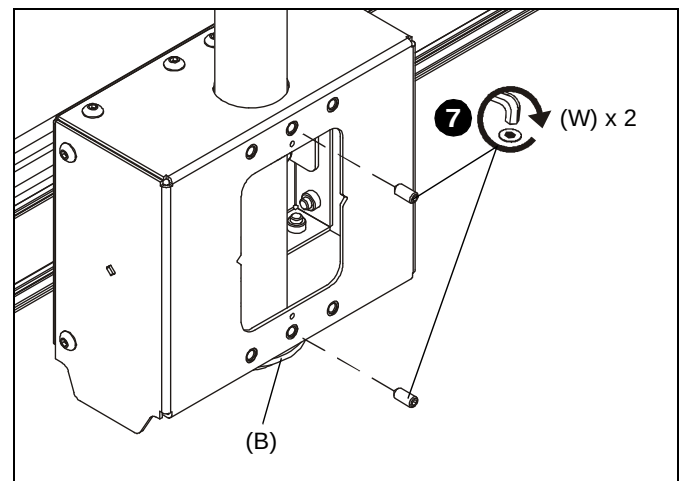

Figure 3
6. Loosen two installed set screws (W), and slide ceiling mount down extension column until it rests on the bottom coupling (B). (See Figure 3)
7. Retighten two 5/16" set screws (W) against column. (See Figure 3)